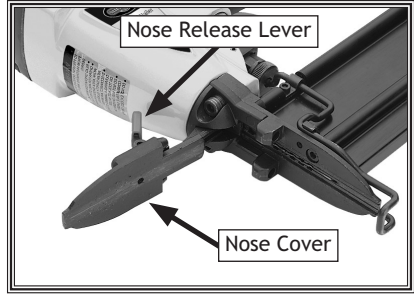

Figure 6. Nose opened to clear jam.
4. Open the nailer nose with the nose release lever (see **Figure 6**).